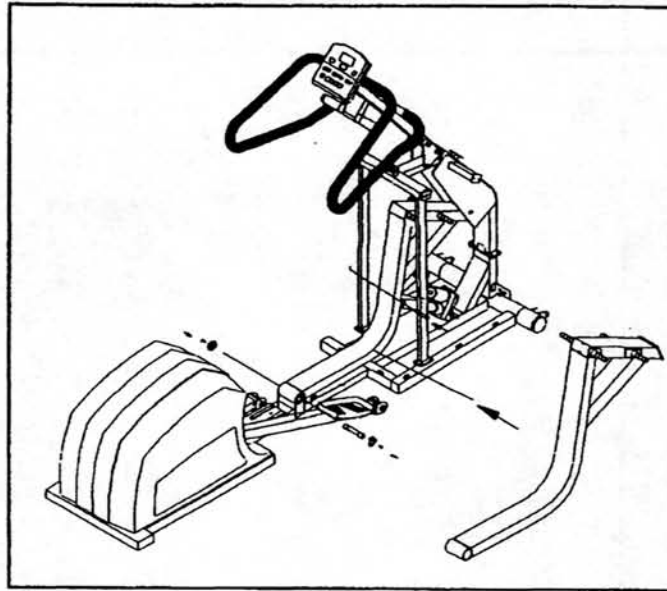

Fig.21-5
1. Replace a new ELEVATION FRAME and install the BUSHINGS. Then tighten the HOLD DOWN NUTS on both side of ELEVATION FRAME.(see fig.21-5)